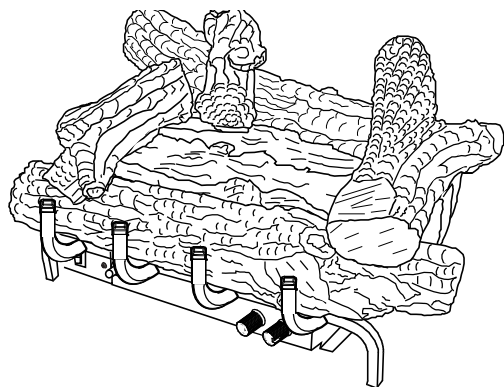

Figure 27 - Final assembly
7. Final assembly is shown in **Figure 27**.